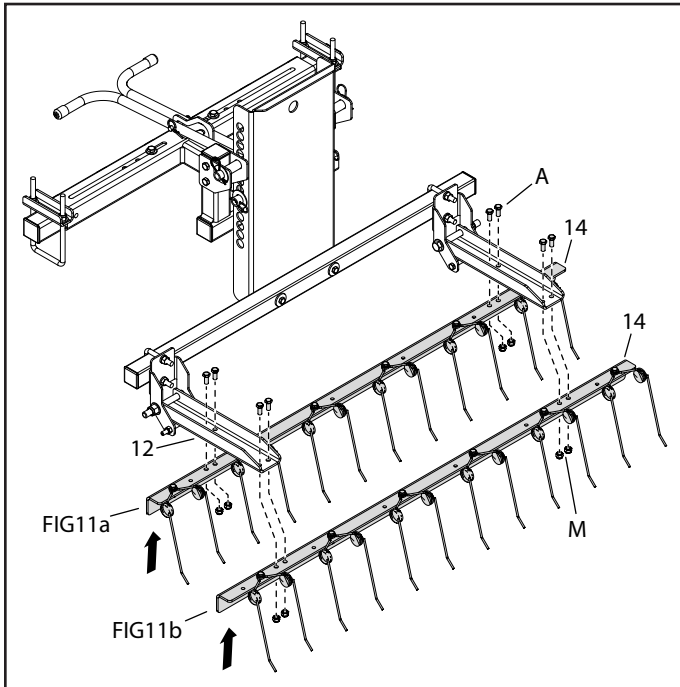

FIGURE 12
STEP 12: (SEE FIGURE 12)
- Attach inner tine mount bracket assembly (14) to the lift brackets (12) with four hex bolts (A).
- Secure the hex bolts with four Nylock nuts (M).
- Repeat for the outer tine mount bracket assembly (14).